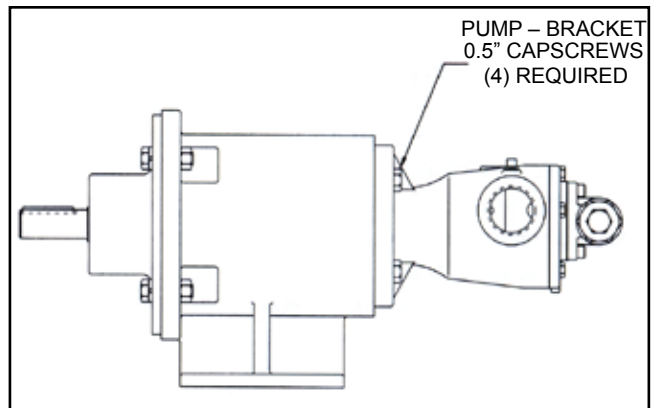

FIGURE 15
1. Remove the piping to the ports and remove the capscrews securing the pump to the bracket (**See Figure 15**). Support the pump with an overhead hoist if possible.